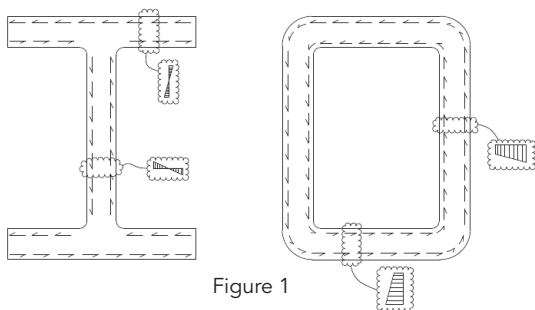

Figure 1
- 1 The torsional constant J can be accurately approximated for W-shapes and similar shapes of open cross section as $\Sigma(bt^3/3)$ where b and t are the width and thickness of each element, respectively. Does this simple approximation also work for a hollow structural section (HSS)? Hint: See Figure 1.
- 1 No, because the mode of torsional resistance differs. Open cross sections resist torsion with in-plane shear stresses that vary linearly across the thickness of each element of the cross section, as illustrated in Figure 1 (on the previous page) for a W-shape. Closed cross sections resist torsion with shear stresses that are distributed over the thickness of the cross section for a rectangular HSS (the right side of the figure). See AISC Design Guide 9: *Torsional Analysis of Structural Steel Members* for more.